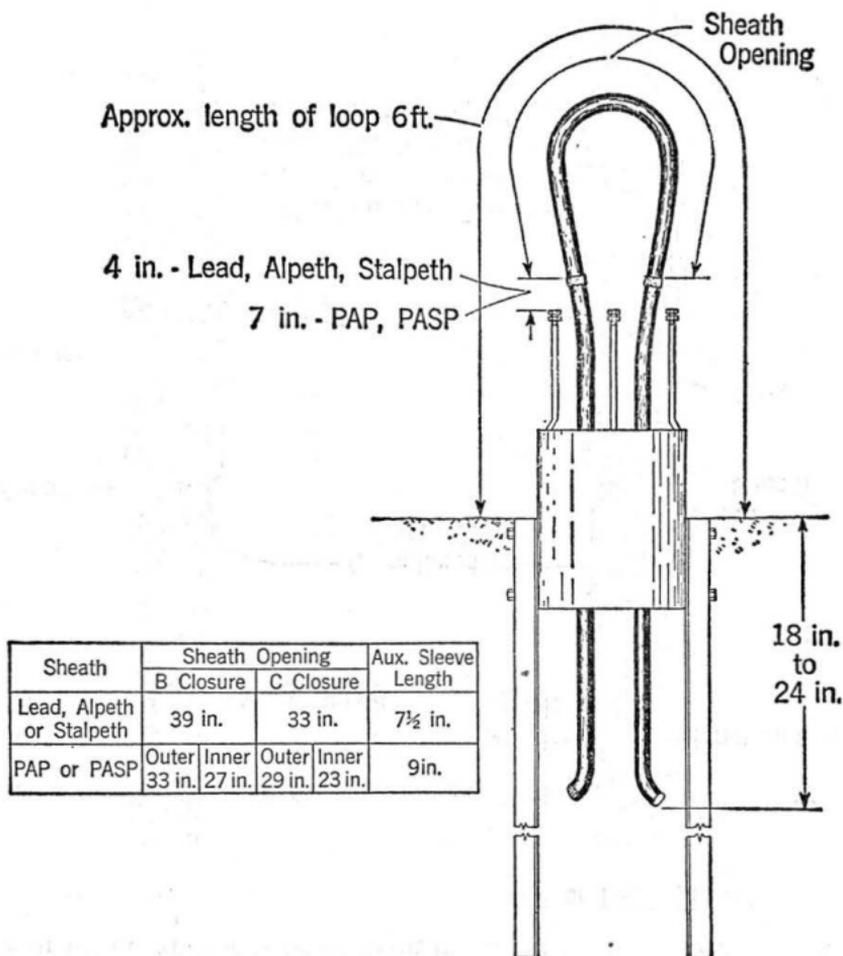

Fig. 2
2.01 Using the rods on the base assembly as a reference point place B Paper Tape markers on the sheath as illustrated in Fig. 2.